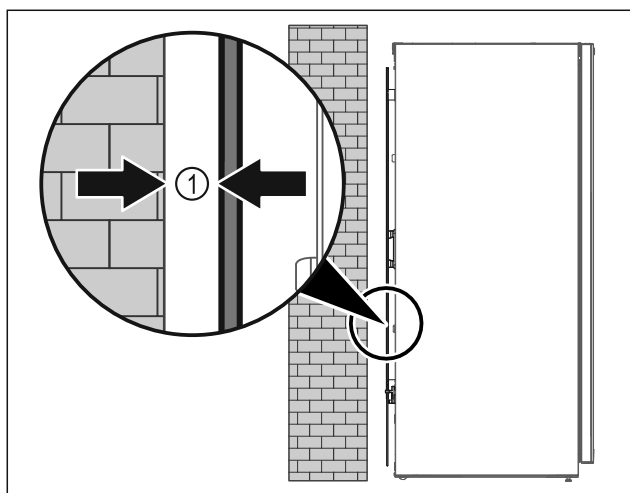

Fig. 5
- Set up the appliance either free-standing or directly against a wall at a minimum distance of 5 mm Fig. 5 (1).